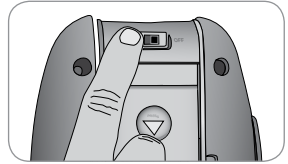

Fig. 1
1. Slide the power switch to the OFF position before inserting/ changing batteries (Fig. 1).